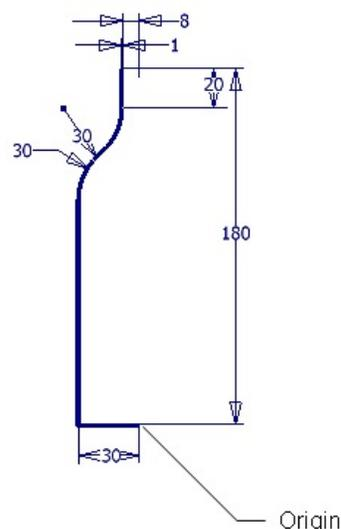

Figure 6-145 Sketch for the bottle
- a. Create the bottle by revolving a sketch drawn on the XZ plane, refer to Figure 6-145.
4. Draw the sketch of the bottle and then offset it outward to a distance of 1 mm to create a hollow bottle. Join the endpoints of the sketch using the **Line** tool to create a closed sketch, as shown in Figure 6-145.
5. Add the required constraints and specify the dimensions, refer to Figure 6-145.
In Figure 6-145, the display of grids has been turned off for the clarity of the sketch.